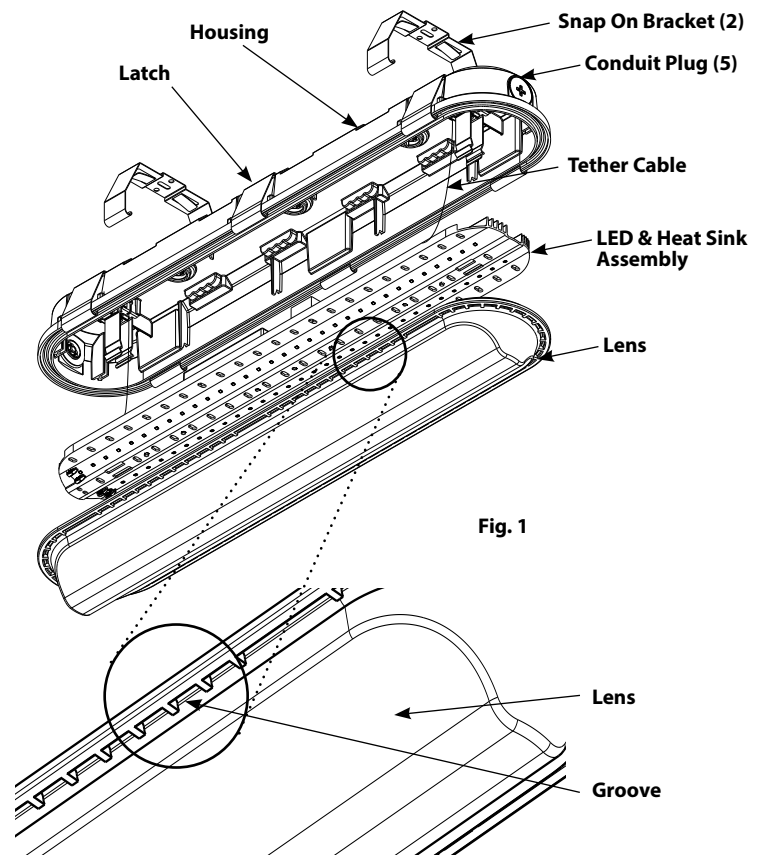

Fig. 1
1. Use appropriate mounting hardware (not supplied) to secure the **Snap On Brackets (2)** to **Mounting Surface**. Recommended **Snap On Bracket** distance center to center is 15-3/16" (for 2 feet) and 37-19/32" (for 4 feet). **WARNING: Mount Snap On Brackets (2)** farther away from each other and symmetrical about the center. To secure **Housing**, **Snap On Brackets (2)** must be aligned with each other.
3. Snap out the **LED & Heat Sink Assembly**. **Tether Cables (2)** are provided, if required.
4. Feed supply wires through one of the **Conduit Plugs (5)** to make electrical splices. Cord-grips (2) are provided and can be used based on application.
7. Snap **Housing** on **Snap On Brackets (2)** as shown in **Fig. 2**. Ensure that **Housing** is secure to **Snap On Brackets (2)** and inserted into the **Grooves** on **Lens** as shown in **Fig. 1**.
3. Snap **Housing** on **Snap On Brackets (2)** as shown in **Fig. 2, Page 1**. Ensure that **Housing** is secure to **Snap On Brackets (2)** onto the **Grooves on Lens** as shown in **Fig. 1, Page 1**.